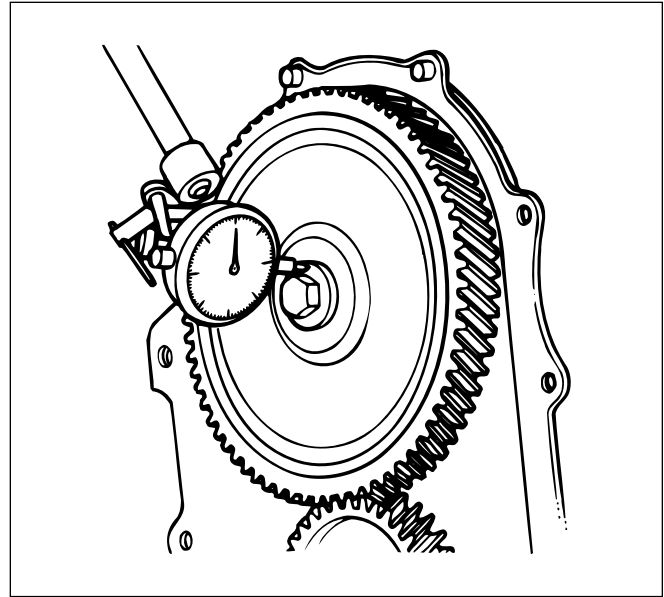

Fig. 2-37. Measuring camshaft endplay.
1. Attach a dial indicator to the engine so its plunger is resting directly on the end of the fixing bolt, or on a machined surface near the center point of the gear, figure 2-37